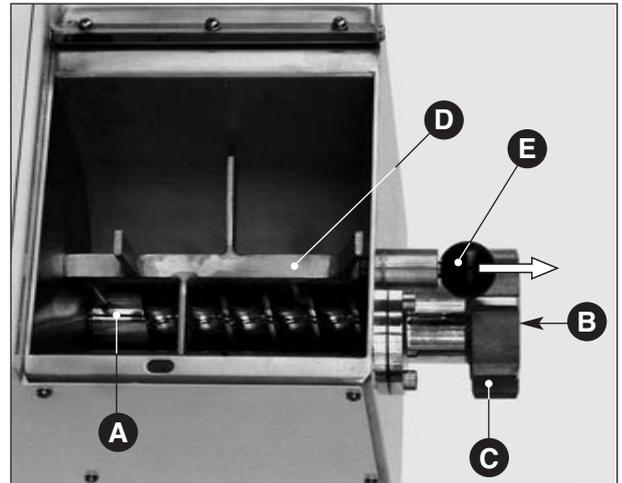

Fig. 1
- position the selector on “0” (**Fig. 2 C**) and verify the correct set-up of the Archimedean screw (**Fig. 1 A**) making sure that the cylinder part is sustained by the dragging shaft;
Fig. 1 bis
- then make sure that the plastic cap (**Fig. 1 B**) which replaces the drawplate is correctly positioned and the ring nut (**Fig. 1 C**) is tightly well-screwed on;
- lastly lock the mixer (**Fig. 1 D**) tightly in its seat by means of the head-knob (**Fig. 1 E**) or tighten the mobile support in the TR 75/E (**Fig. 1 bis** see page 21).